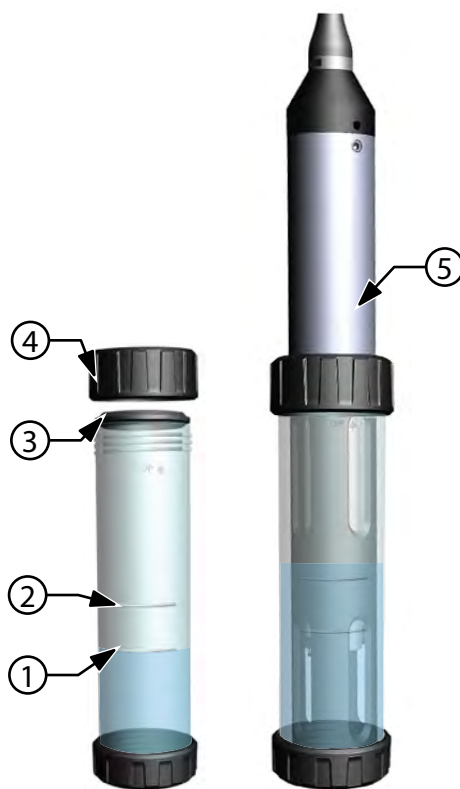

Figure 44 Calibration cup standard volume
4. Refill the calibration cup with fresh calibration standard to approximately the first line for pH, ORP, and turbidity calibration. Fill to the second line for conductivity calibration (Figure 44 on page 34).
1. Make sure the calibration cup gasket is correctly seated (Figure 44). Loosely install the retaining nut on the calibration cup.